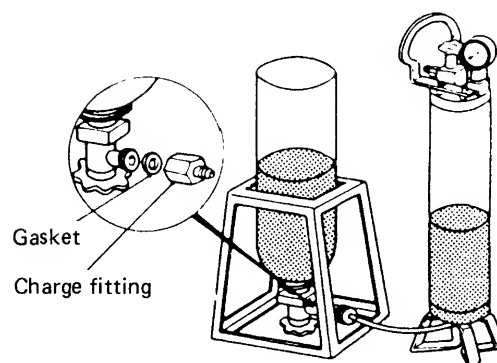

Fig. D-15
- 1) If cylinder has not yet been filled, move at least one pound of refrigerant (R22) to the charging cylinder. Fig. D-15.